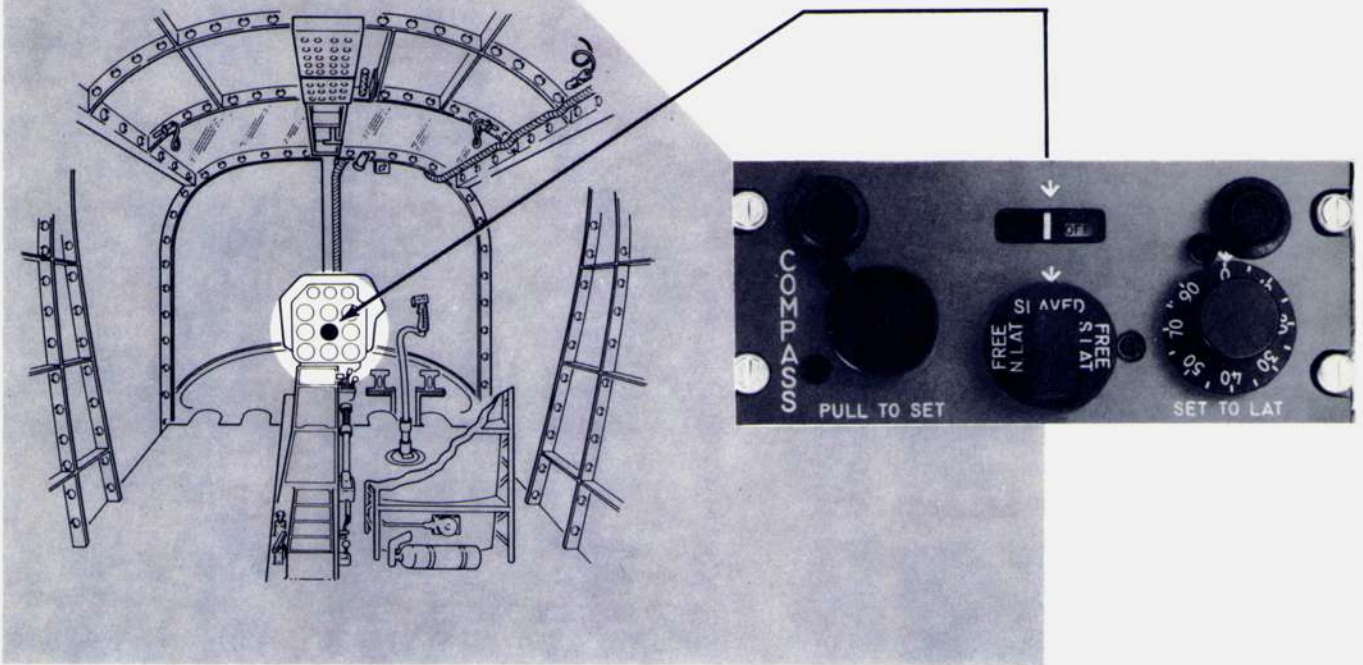

Figure 4-21
**Description.** The system may be operated as a free gyro or as a compass controlled (slaved) gyro. In compass controlled operation the remote compass transmitter detects changes in the helicopter's line of flight and transmits these changes to an amplifier. The amplifier, in turn, transmits corresponding correction signals to the gyro, which produces the helicopter's heading on the indicator (6, figure 1-10). In free gyro operation the compass transmitter is disconnected from the gyro. The dial should be adjusted manually to coincide with the magnetic compass reading and must be corrected for gyro precession as necessary. The system is controlled by a panel (see figure 4-21) located on the pilot's console. Power to operate the system is received from the 28-volt d-c bus through the MA-1 compass circuit breaker (see figures 1-22 and 1-23). This power is being supplied to the system whenever the BAT & GEN switch is ON.